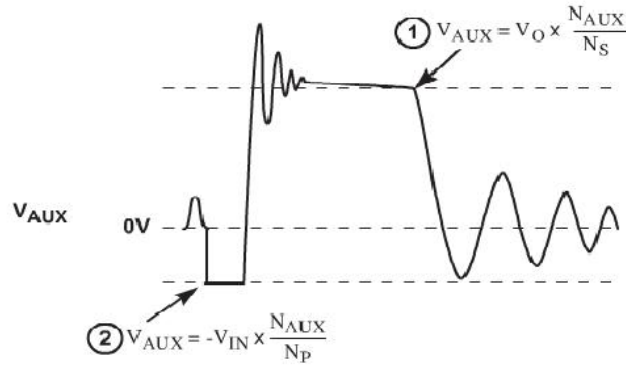

Figure 7.3: Auxiliary Voltage Waveforms
and reflects the output voltage as shown in Figure 7.3. The voltage at the load differs from the secondary voltage by a diode drop and IR losses. Thus, if the secondary voltage is always read at a constant secondary current, the difference between the output voltage and the secondary voltage will be a fixed ΔV . Furthermore, if the voltage can be read when the secondary current is small, ΔV will also be small. With the PN8162 ΔV can be ignored.
In the PN8162, the current ID, avg is controlled in order to achieve good current regulation, while avoiding continuous conduction mode operation. During constant current (CC) operation, the output voltage regulation is not guaranteed. The point 1 in Figure 7.3, which reflects output voltage is not regulated to FB(NOM) (i.e. 1.533V). For LED applications, where current regulation is critical, design needs to ensure the point 1 is well below FB(NOM) with some margin.
The PN8162 also incorporates constant voltage (CV) operation, where output voltage maintains constant by regulating the point 1 indicated in Figure 7.3 to FB(NOM) (1.533V typically). During constant voltage operation, the PN8162 may operate in pulse-width-modulation (PWM) mode or pulse-frequency-modulation (PFM) mode, depending on load conditions. In particular, the PN8162 allows the switching frequency to drop as low as 1.8kHz at PFM mode, which helps system stay regulated at very light load condition, thus achieving <30mW no-load power consumption and meanwhile improving active operating efficiency by using large pre-load resistor.
The secondary maximum output DC voltage is limited by the PN8162. When the FB signal exceeds the output OVP threshold at point 1 (as shown in Figure 7.3), the PN8162 shuts down.
LED short fault is detected via FB pin. When the point 1 in Figure 7.3 is below 115mV for several consecutive cycles, the PN8162 shuts down.